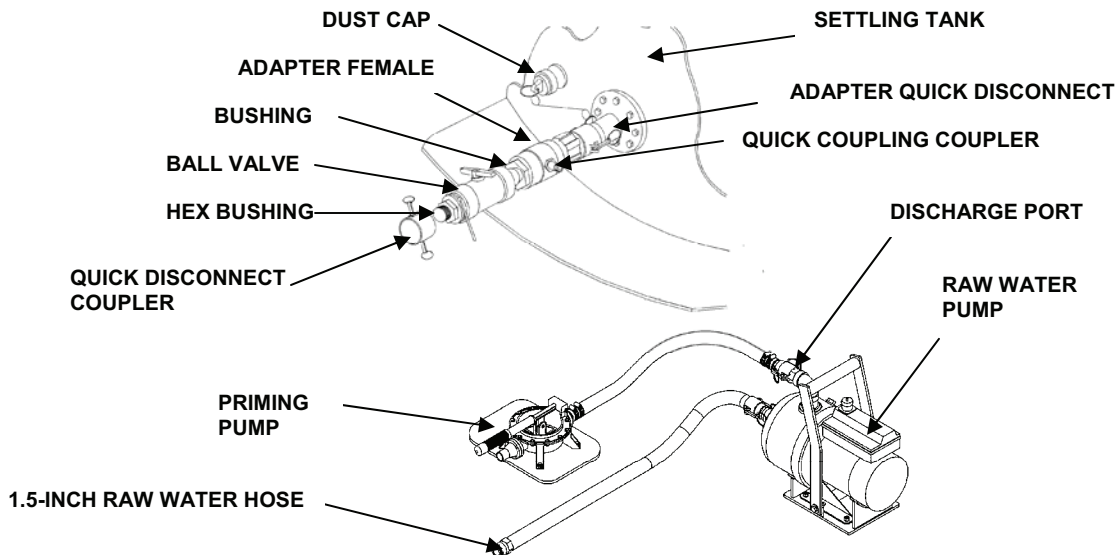

Figure 10. Priming Pump/Raw Water Service Pump Connection.
2. Ensure ball valve V1 is open on settling tank inlet spool piece. See Figure 10.
4. Attach a section of fabric hose (green) to the settling tank inlet spool piece. See Figure 10.